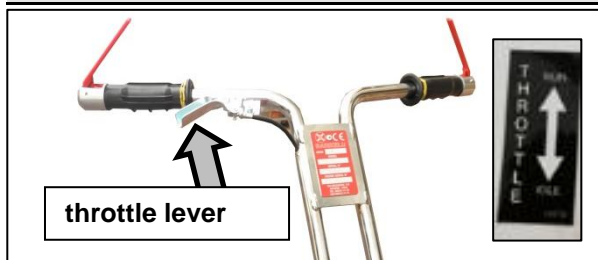

FIG. 4.4
- Position the throttle (Fig. 4.4) in the idle position (the lever is provided with specific indications for use: **(on and off arrow)**, Fig. 4.4);
The release of the maintained action control (emergency stop, see fig. 4.4), involves an immediate arrest of trowel.